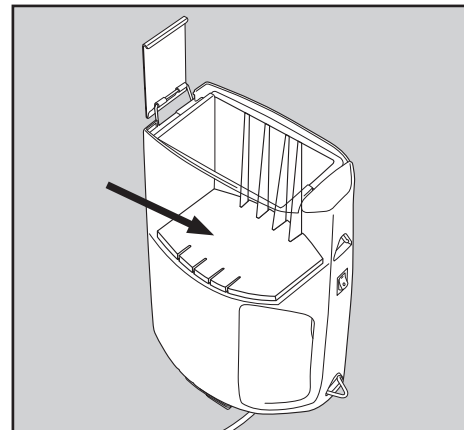

Fig. 20
- Place the new charcoal filter in the back wall of the vacuum. It should fit snugly against the inside wall of the vacuum (Fig. 20).